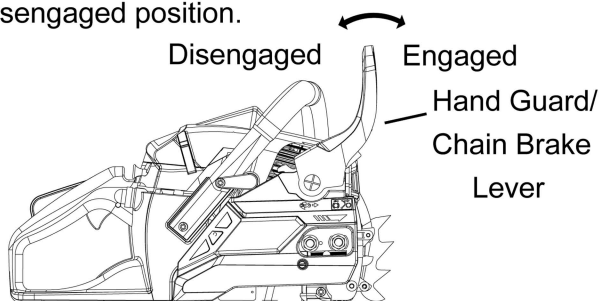

Figure 17: Hand Guard/Chain Brake Lever
3. Place the Hand Guard / Chain Brake Lever in normal operating (disengaged) position by pulling the Hand Guard back toward the Handle. Refer to Figure 17. **Note:** The Chainsaw will not operate unless the Hand Guard / Chain Brake Lever is in the disengaged position.